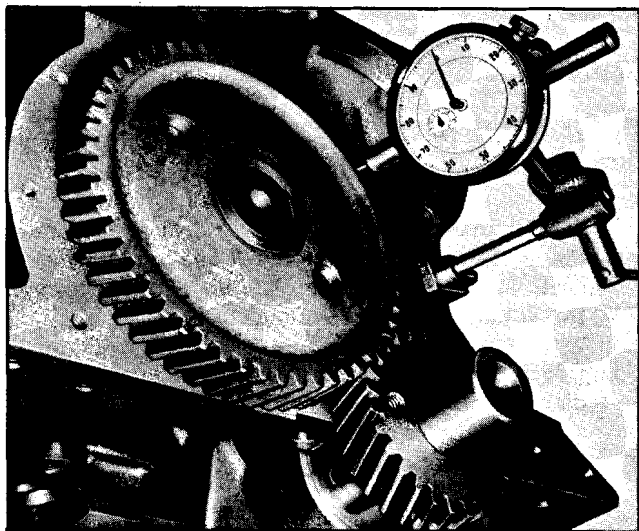

Fig. 6-49 Checking Camshaft Gear Runout
3. Check camshaft and crankshaft gear runout with a dial indicator (Fig. 6-49). The camshaft gear runout should not exceed .004" and the crankshaft gear runout should not exceed .003".